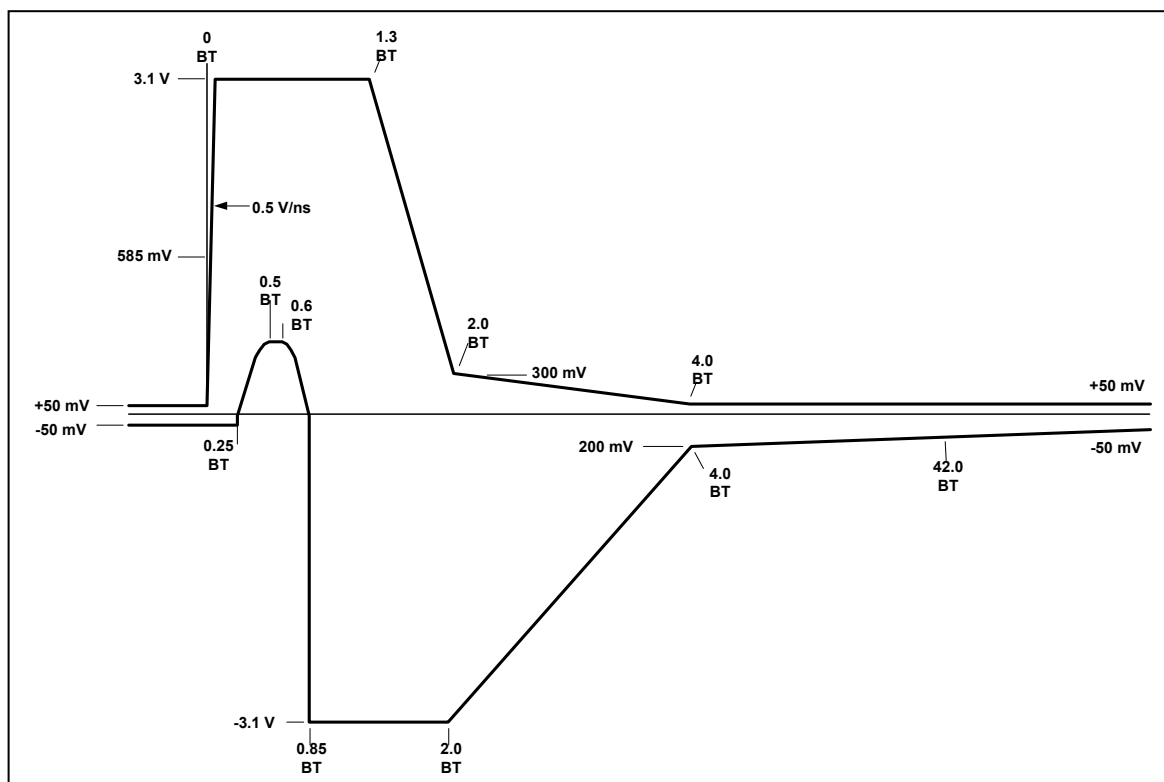
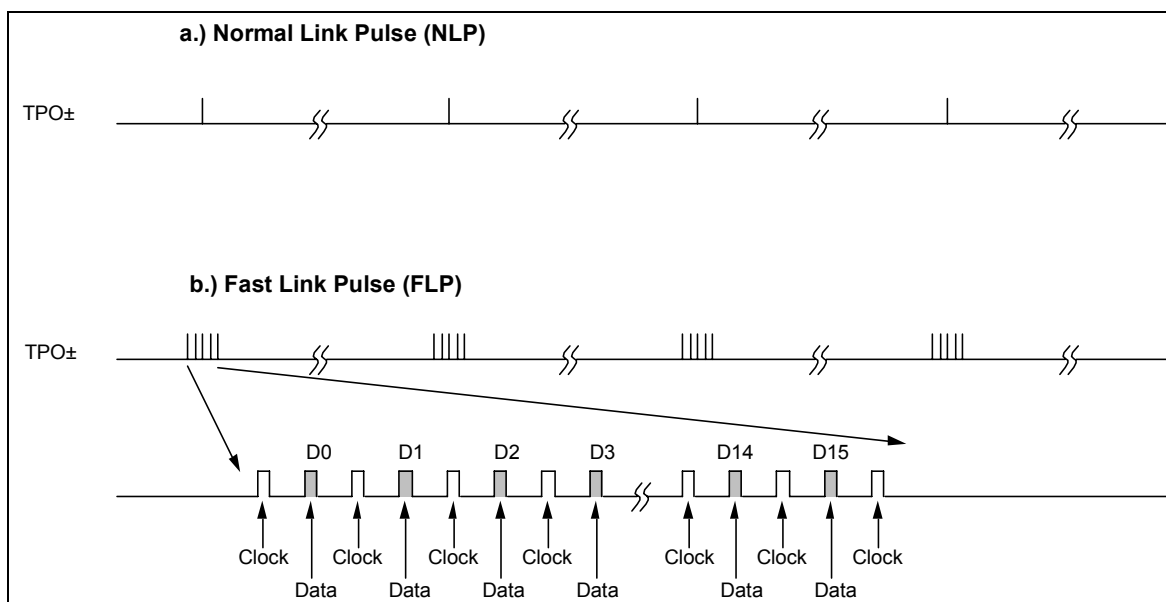

Figure 6.7 - Link Pulse Output Voltage Template – NLP, FLP
Figure 6.8 - NLP VS. FLP Link Pulse
The LAN91C113 uses the same 10BASE-T link integrity algorithm that is defined in IEEE 802.3 Clause 14. This algorithm uses normal link pulses, referred to as NLP's and transmitted during idle periods, to determine if a device has successfully established a link with a remote device (called Link Pass State). The transmit link pulse meets the template defined in IEEE 802.3 Clause 14 and shown in Figure 6.7. Refer to IEEE 802.3 Clause 14 for more details if needed.
As stated previously, the AutoNegotiation algorithm is used for two purposes: (1) To automatically configure the device for either 10/100 Mbps and Half/ Full Duplex modes, and (2) to establish an active link to and from a remote device. The AutoNegotiation algorithm is the same algorithm that is defined in IEEE 802.3 Clause 28. AutoNegotiation uses a burst of link pulses, called fast link pulses and referred to as FLP'S, to pass up to 16 bits of signaling data back and forth between the LAN91C113 and a remote device. The transmit FLP pulses meet the templated specified in IEEE 802.3 and shown in Figure 6.7. A timing diagram contrasting NLP's and FLP's is shown in Figure 6.8.